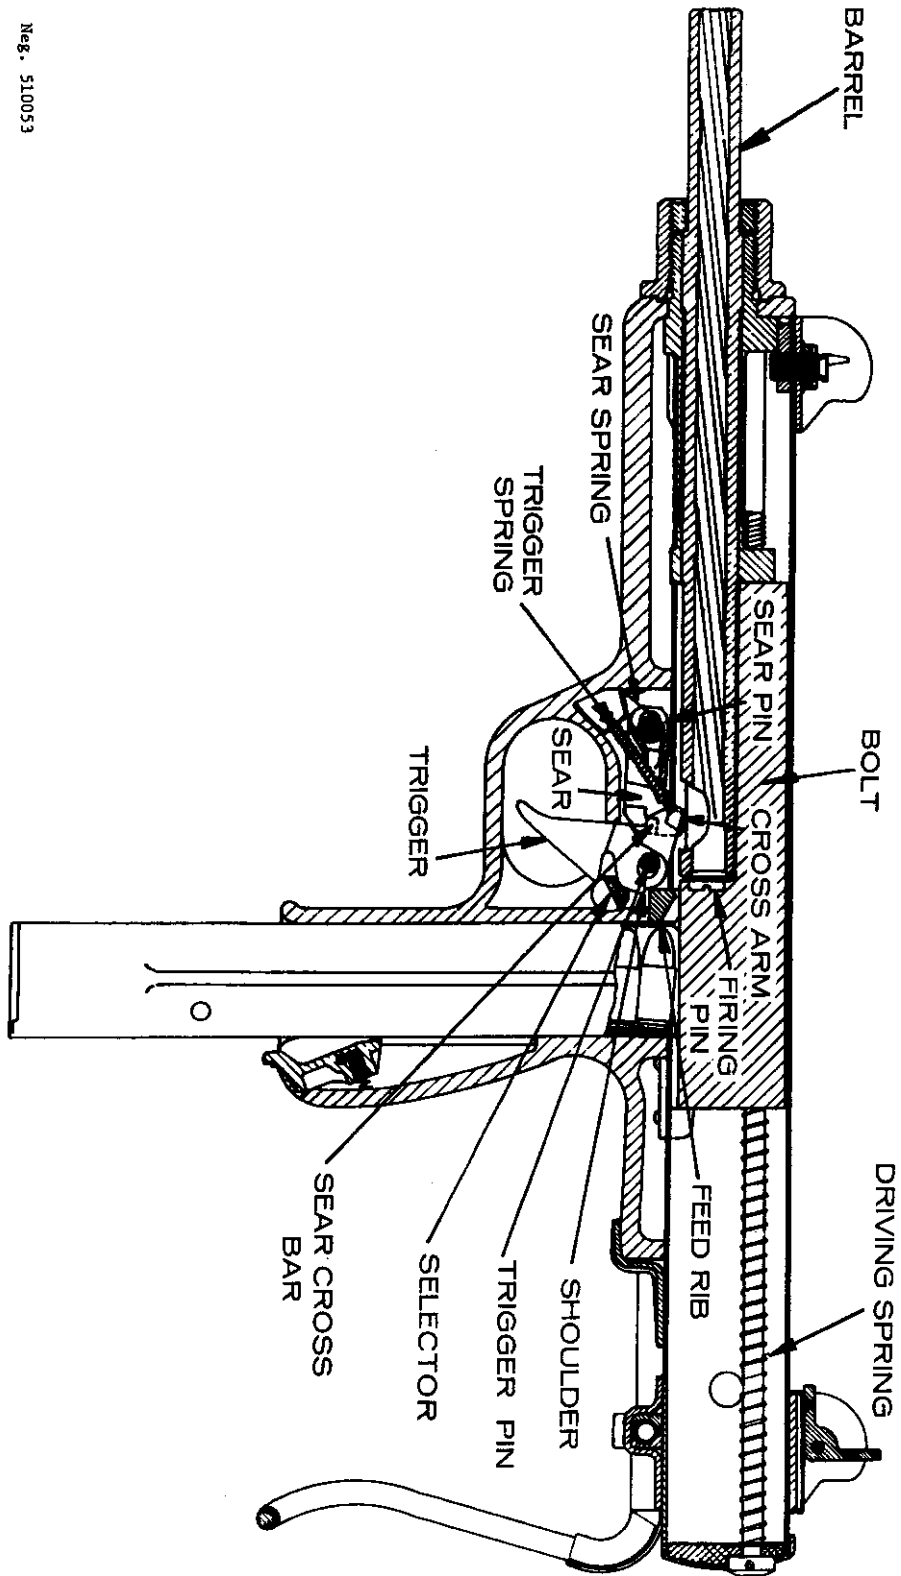

Figure 54. MPI Steyr 69 section.
a. The Steyr submachinegun is blowback-operated. When the gun is cocked and a loaded magazine is in place, pressure on the trigger causes the sear to release the bolt. The bolt, under pressure of the compressed driving spring, goes forward. The feed rib (fig 54) on the bottom of the bolt strikes the top cartridge in the magazine and drives the cartridge up the feed ramp and into the chamber. The extractor snaps into the extractor groove in the cartridge case and the fixed pin (fig 54) strikes the primer to fire the cartridge.
b. The cartridge, upon firing, generates gas to drive the bullet through the barrel; at the same time, the gas drives the cartridge case rearward with great force. The case is held, however, by the slight remaining forward movement of the heavy bolt. By the time the rearward thrust of the cartridge case overcomes the bolt's inertia and drives it rearward, the bullet has left the muzzle, the gas pressure has subsided, and only low residual pressure remains. The bolt has had sufficient momentum to continue rearward and compress the driving spring. The extractor holds the cartridge to the bolt face until the case strikes the fixed ejector. The ejector pivots the cartridge case around the extractor and expels the case through the ejection port. The bolt continues its rearward movement until it strikes the buffer (fig 54) and stops. The driving spring then forces the bolt forward again. The magazine spring has forced a fresh cartridge up in the magazine feed lips, and the bolt is ready to commence another firing cycle, as activated by the trigger mechanism.
c. The trigger mechanism is simple in construction but sophisticated in functioning. Figure 54 is a sectional view of the trigger mechanism. The sear and the trigger have free fore and aft movement, but the latter is spring-loaded to the rear.